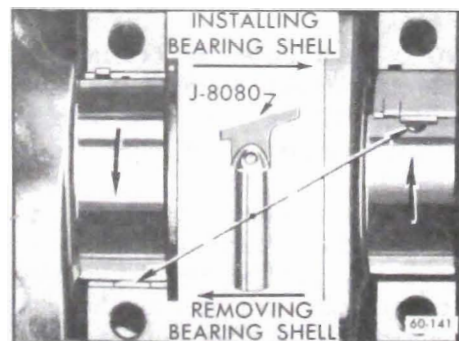

Figure 60-120 - Removing and Installing Crankshaft Bearing Upper Shell
7. Remove upper bearing shell by inserting Bearing Shell Remover and Installer J-8080 in oil hole in crankshaft. Then slowly rotate crankshaft so that tool rotates the shell out of place by pushing against end without tang. See Figure 60-120.
11. Rotate bearing shell into place as far as possible by hand, then insert Installer J-8080, in crankshaft oil hole and rotate crankshaft to push shell into place. See Figure 60-120.